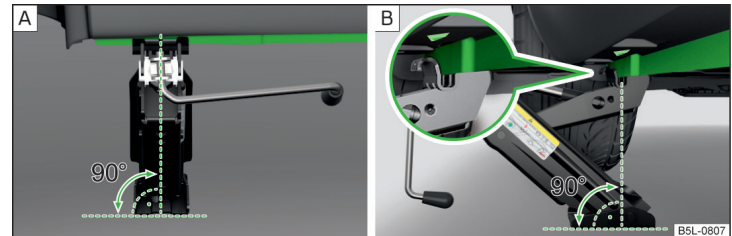

Fig. 185 Principle sketch: Attach lifting jack
- Support the base plate of the jack with its full area resting on level ground and ensure that the jack is located in a vertical position at the jacking point » [Fig. 185 - \[A\]](#).
- Position the lifting jack below the jacking point with the crank and move it up until its claw encloses the web » [Fig. 185 - \[B\]](#).